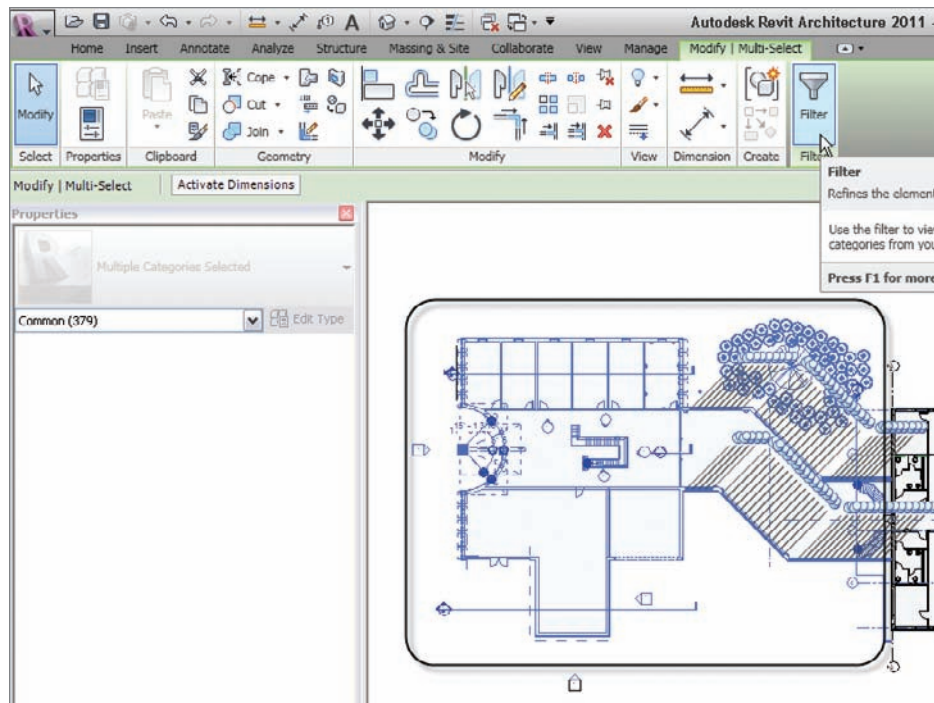

FIGURE 21.4 Filtering your selection
1. Pick a window around the entire west wing as well as the corridor link, as shown in Figure 21.4.